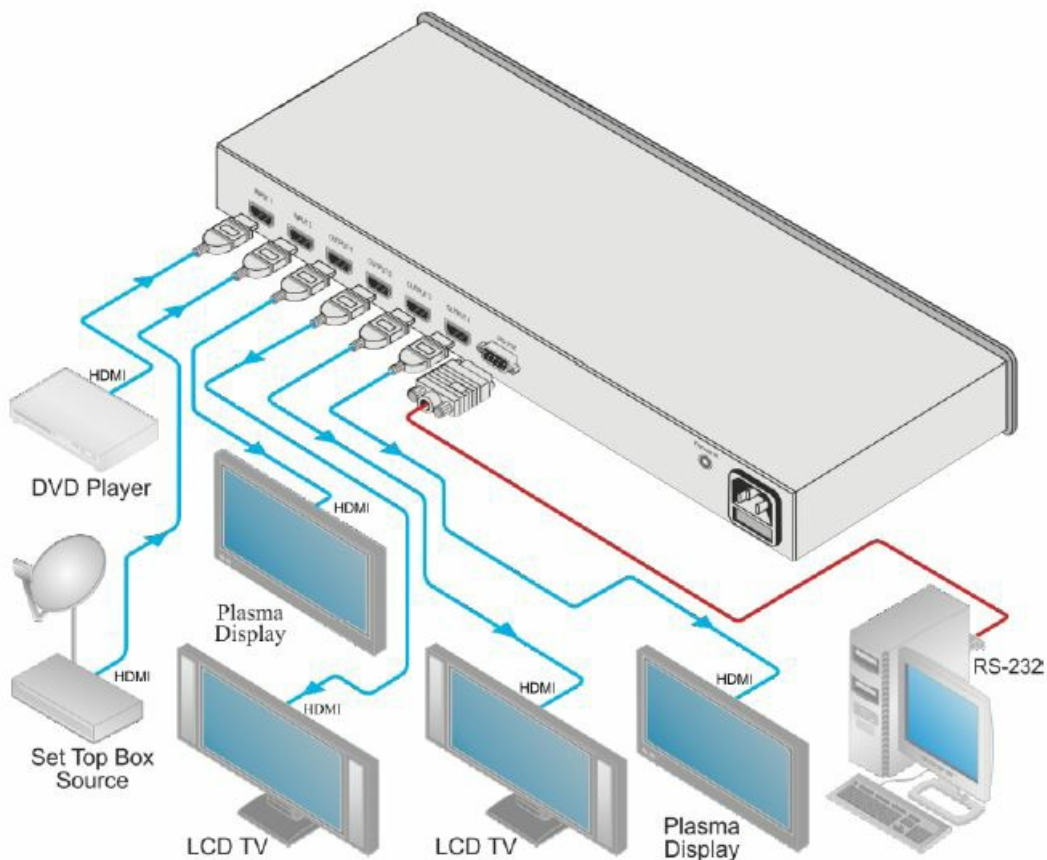

Figure 3: Connecting the VM-24H 2 Input 1:4 HDMI Distributor
To connect the VM-24H, as illustrated in the example in Figure 3, do the following:
4. Connect the power cord to the mains electricity (not shown in Figure 3).